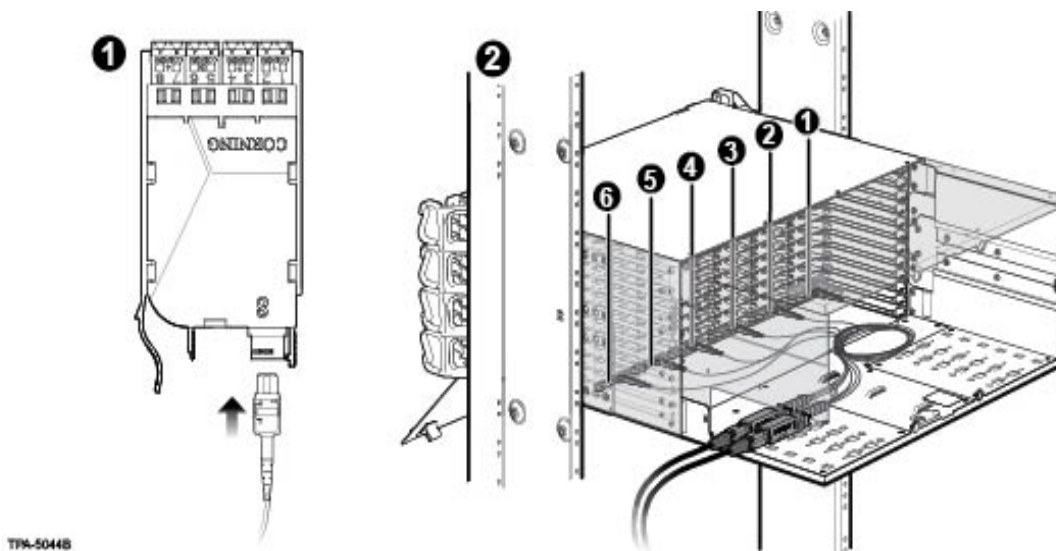

Figure 17 — Install EDGE8™ Standard Modules
- Step 2:** Mate the MTP connector(s) into the adapter(s) at the back of the module (Figure 17) with the MTP key down/opposite the module label.
- Step 4:** Loop slack as shown in Figure 17, leaving enough slack to pull out trays without violating the minimum bend radius.
- Step 6:** Loosely capture fiber slack with hook-and-loop straps, if desired (Figure 17).